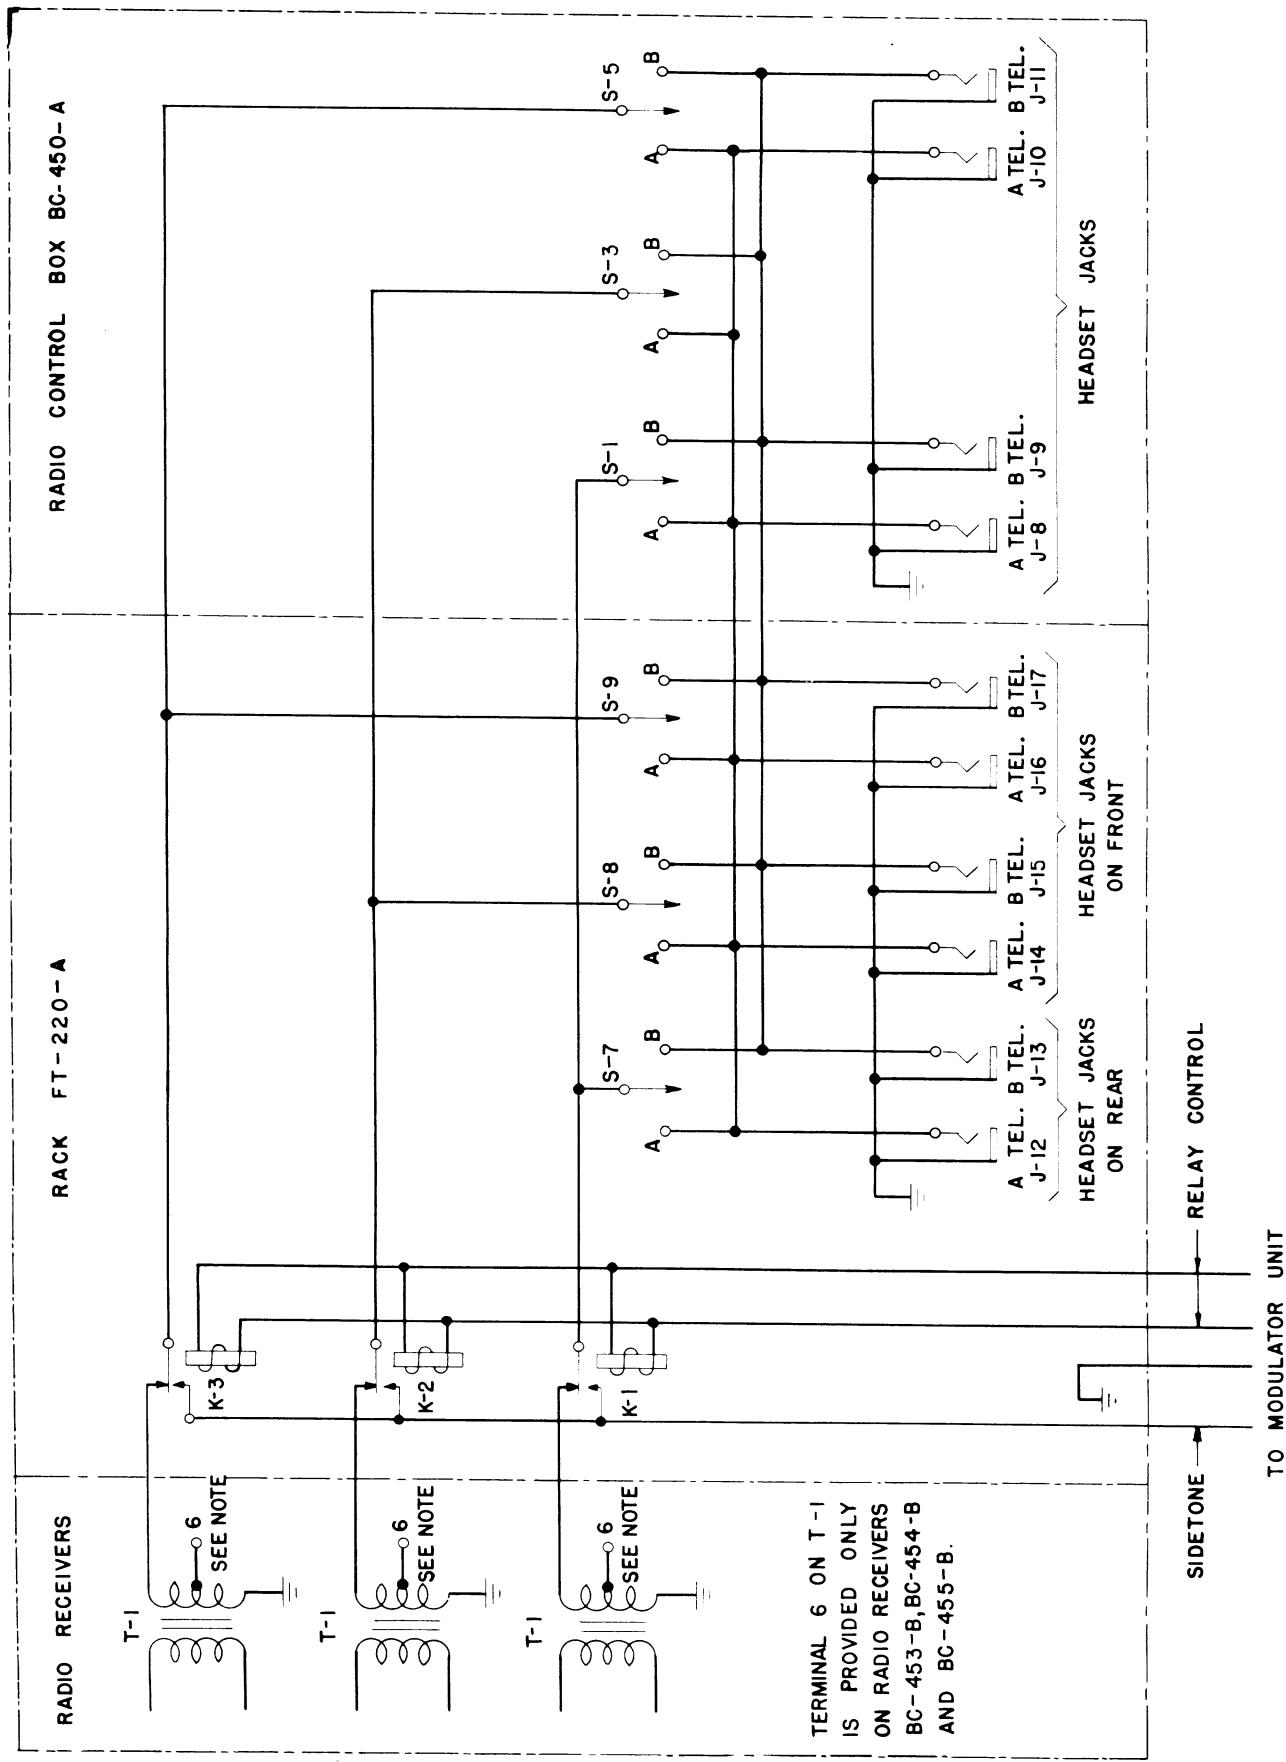

FIGURE 8 — FUNCTIONAL DIAGRAM OF RECEIVER OUTPUT CONNECTIONS
- (2) Refer to Figure 26 in connection with the following: When S-2 is turned to MCW, primary voltage is applied to one receiver and 7 on J-25 is connected to ground in order to disable the heterodyne oscillator in that receiver. With S-2 on CW the heterodyne oscillator is used for the reception of unmodulated signals. R-25 is a 0-50,000-ohm (variable) gain control resistor in the r-f and first i-f amplifier cathode circuits. S-1 is a three-position switch which isolates the receiver output or connects it to either of the headset lines A and B. Figure 8 is a functional diagram showing the receiver output connections. An examination of this will show that when S-1 is thrown to A, the output of the receiver connected thereto is connected to line A, providing that switch S-7 on Rack FT-220-A is in the center position. S-1 may be switched to B if desired or it may be left in the center as a standby position. The output of all receivers may be switched to A or to B, or one may be on A while the others are on B. The object of the A TEL.—B TEL. system is to provide two separate listening channels which may be reduced to one when the occasion demands.